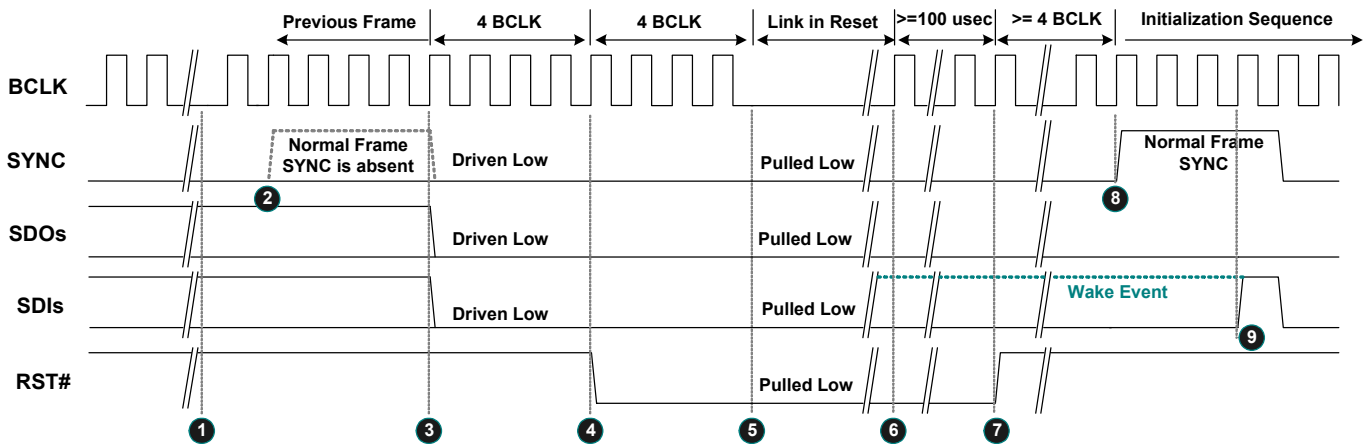

Figure 11. Link Reset Timing
3. Software initiates power management sequences. Figure 11, page 19, shows the ‘Link Reset’ timing including the ‘Enter’ sequence (❶~❺) and ‘Exit’ sequence (❻~❸)